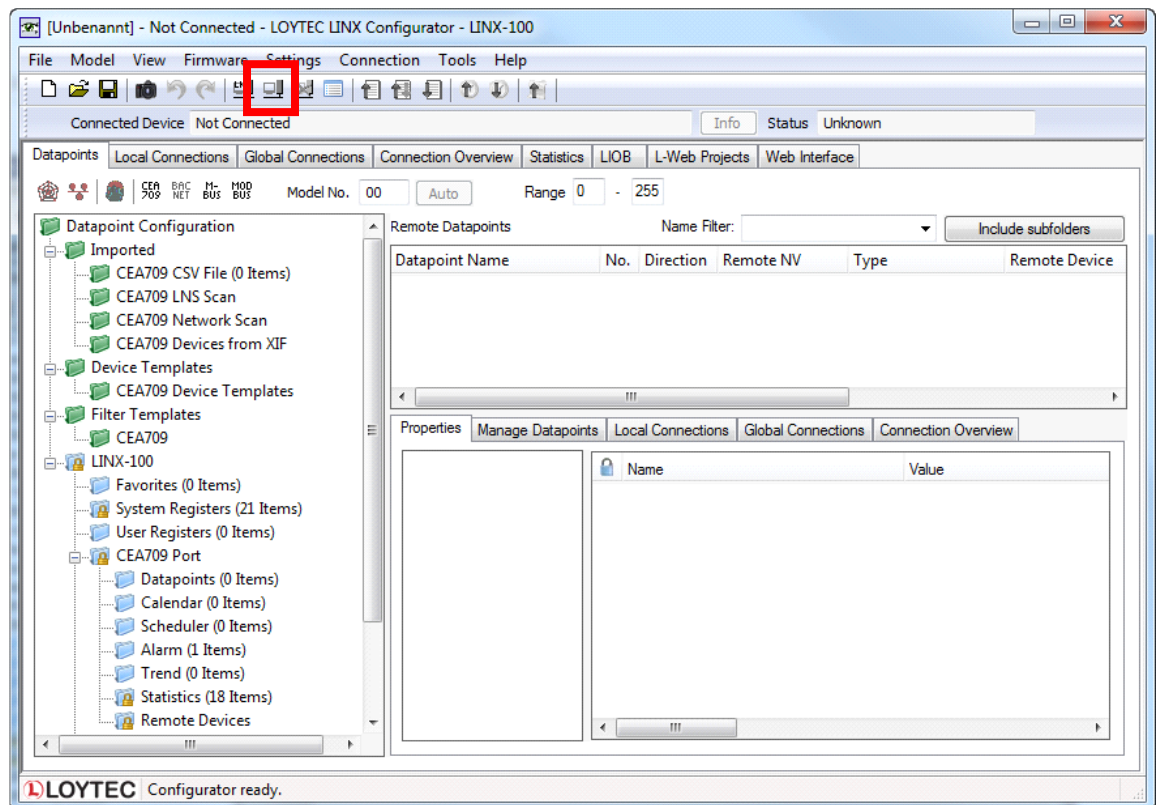

Figure 44: L-INX Configurator main screen.
1. Start the L-INX Configurator software by selecting Windows **Start** → **Programs** → **LOYTEC LINX Configurator** → **LOYTEC LINX Configurator**. The application starts up and displays the data point manager screen as shown in Figure 44.
2. When the device is online, connect to the device by clicking on the **Connect to device** speed button as indicated by the red rectangle in Figure 44.